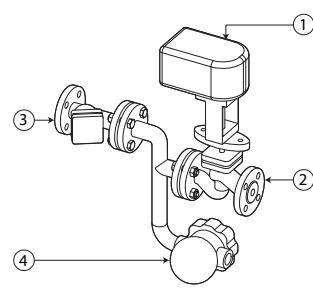

Fig. 4.b
- For threaded control valves, SAKV****U*, with an optional fitting kit, SAKR****U*, attach the fittings to the valve as shown in figure 4.a.
- Attach the ① optional actuator, SAKA*****+, to the ② control valve.